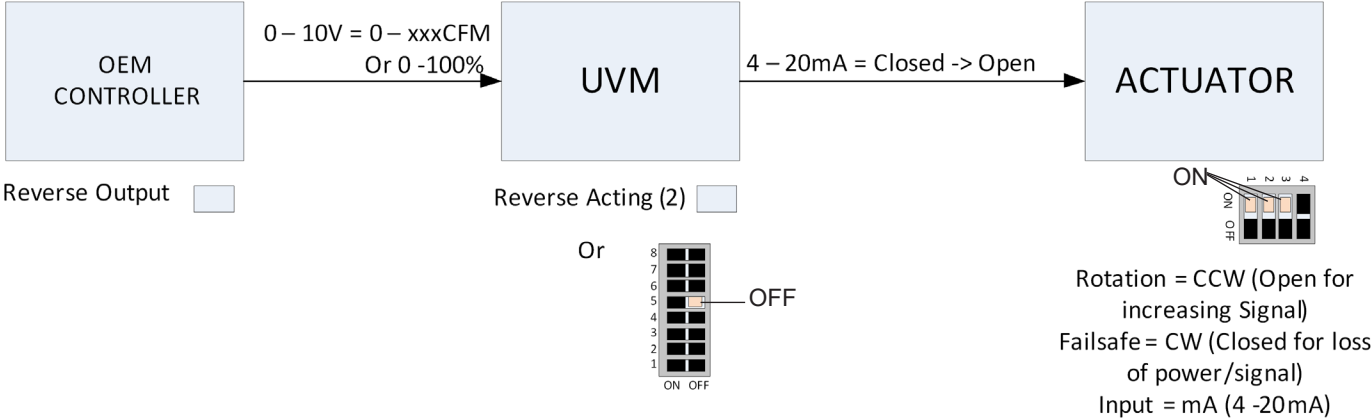

Figure 8. Normal Operating Mode
For normal operation, typically used for supply valves, the settings shown in Figure 8* are recommended.
*Figures 8 and 9 are on next the page.